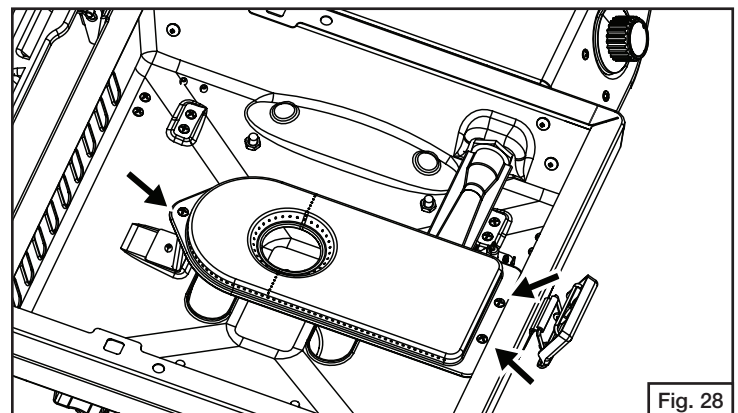

Fig. 28
3. Using a screwdriver, remove the self-tapping screws holding the burner clamps beneath the case and remove the burner. (Fig. 28)